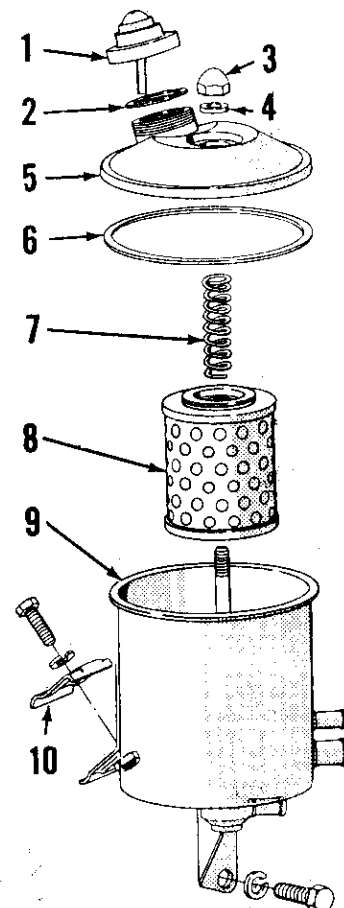

Fig. 6—Exploded view of power steering reservoir and filter assembly used on early models.
10. FLUID AND BLEEDING. Recommended power steering fluid is Ford M2C41-A oil. Maintain fluid level to full mark on dipstick (1—Fig. 6); reservoir assembly (5—Fig. 5) on early models is located under engine hood directly behind radiator. On late models, reservoir is mounted on pump (25). After each 600 hours of operation, it is recommended that the filter element (8—Fig. 6 or 3—Fig. 10) be renewed, any oil in reservoir be removed with suction gun and that the reservoir be refilled to full mark on dipstick with new, clean oil.